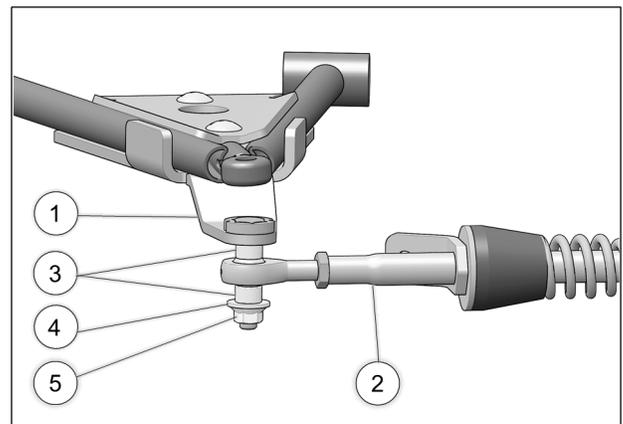

Fig. 22
- Attach the stabilizing rod (**2**) to the anchor bracket (**1**), using the two spacers (**3**), washer (**4**), and nut (**5**). Torque to 70 N•m [52 lb•ft]. Refer to Fig. 22